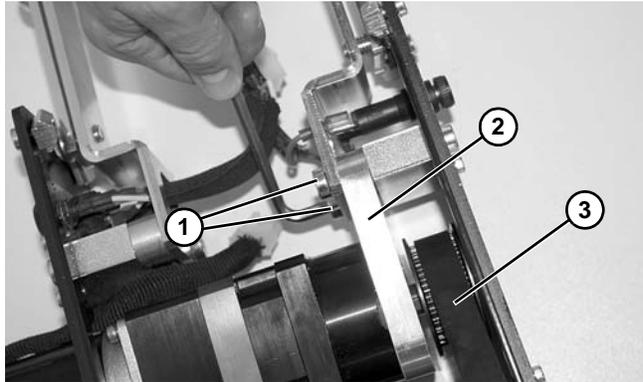

Figure 147
5. Remove two socket head screws (Figure 147, item 1) and washers securing drive motor plate (Figure 147, item 2) to conveyor.
6. Slide drive motor and plate (Figure 147, item 2) to loosen tension on timing belt (Figure 147, item 3).